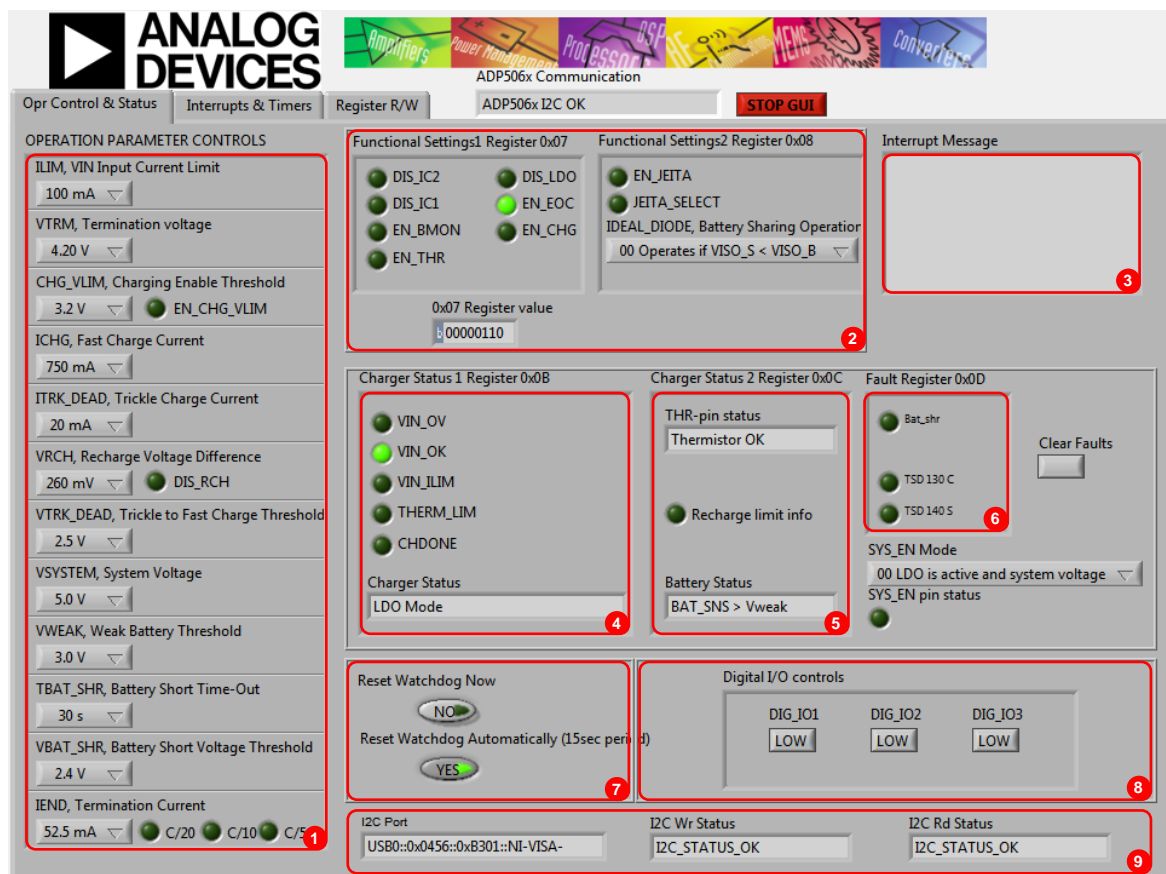
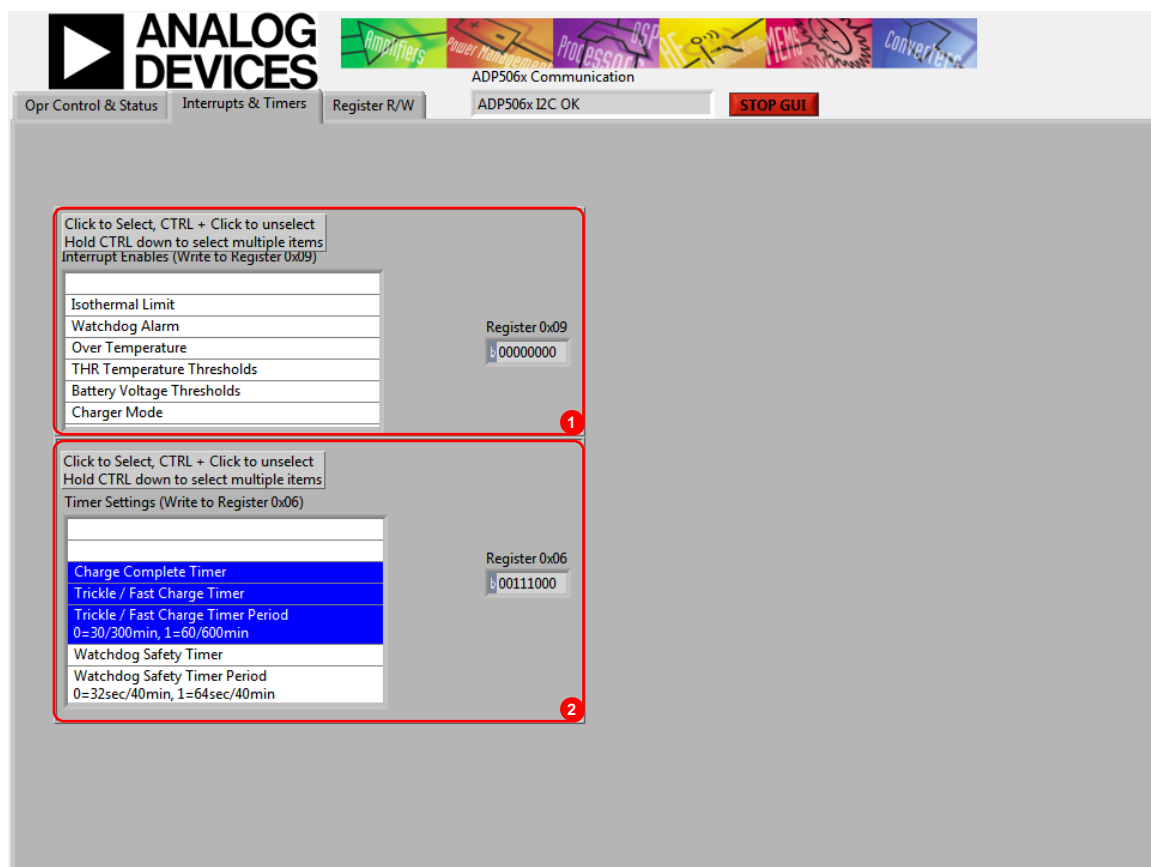

Figure 2. ADP5061 GUI Operation Control and Status Tab
Figure 3. **ADP5061** Evaluation Software GUI, **Interrupts & Timers** Tab
The following are the GUI operation controls and status tools (see Figure 2):
VIN must be above 2.5 V in order for the I2C communication of the ADP5061 to start working. The VIN voltage level is monitored, and the indicators are shown in the charger status indicators (see Number 4 in Figure 2). The GUI automatically reads the content of the registers after every 0.3 seconds from the last action and updates the status of the registers on screen.
If there is a problem in the I2C communication, the status indicators will show an error message (see Number 9 in Figure 2). When I2C communication is operational, status indicators show I2C\_STATUS\_OK (see Figure 2).
The **Interrupts & Timers** tab (see Figure 3) in the GUI controls the register settings. Register 0x0A is automatically read after every 0.3 second timeout from the last user action involving the GUI. When a certain interrupt is enabled, and there is a status change in the corresponding function during charging, an interrupt message is shown in the **Opr Control & Status** tab (see Number 3 in Figure 2).
The default settings of the timers are shown in Figure 3. Changing the timer settings can be done by clicking items in the **Timer Settings (Write to Register 0x06)** box.
- The **Battery Status** indicator on the GUI must show **BAT\_SNS > Vweak** (see Figure 2).
4. Disable charge complete timer register, Register 0x06, using the GUI (see Figure 3).